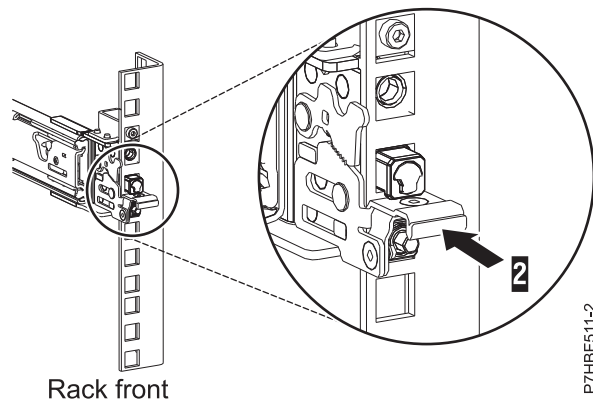

Figure 23. Latch seated on the front rail of the rack
7. While you pull the slide rail forward, ensure that all three pins protrude through the rack holes, then push the front latch (2) all the way in. For details, see Figure 23.